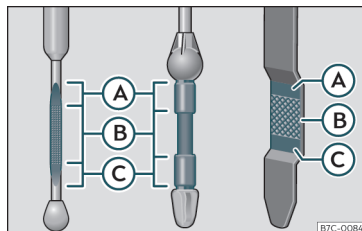

Fig. 248 Engine oil dipstick.
- Then pull it out once more and check the oil level >>> Fig. 248. Top up with engine oil if necessary.
If the oil level is above area >>> Fig. 248 **(A)**, do not start the engine. This could result in damage to the engine and catalytic converter. Contact a specialised workshop.
The oil level must never be above zone >>> Fig. 248 **(A)**. Otherwise oil can be drawn in through the crankcase breather and leak into the atmosphere via the exhaust system.